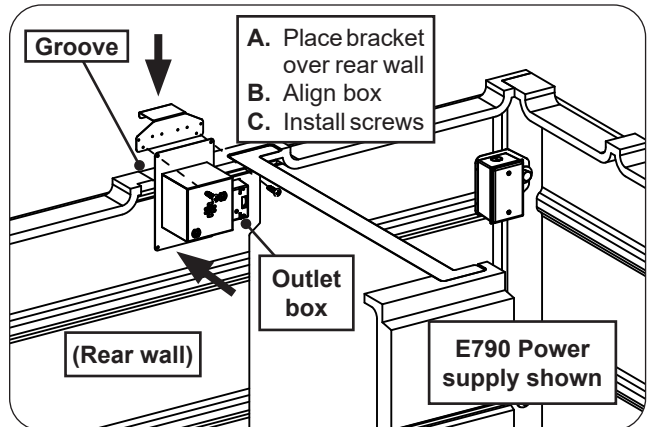

Fig. 13-2 Install power supply box
1. **First** place the power supply box bracket over the rear wall, in the groove just to the left of the outlet box (see Fig. 13-2).
2. Disconnect the power supply harness extension from the grill/griddle, then align the pilot holes on the power supply box with the holes on the bracket. Insert the two Phillips screws and tighten with the power drill and #2 Phillips driver (see Fig. 13-2). **DO NOT OVERTIGHTEN.**